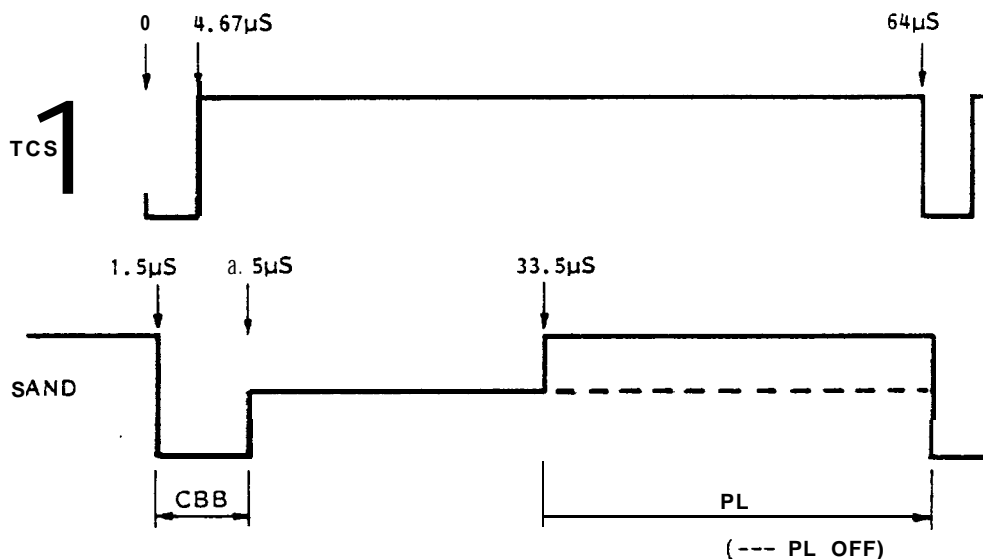

Fig 3.10 - Timing Waveforms.
The SAND output (Fig 3.10) on pin 11 of CCT is a three-level signal containing the phase lock (PL) and **colour** burst blanking (CBB) components for use in VIP2. The PL part of SAND is turned off under noisy signal conditions to allow the VIP2 phase-locked oscillator to free run.